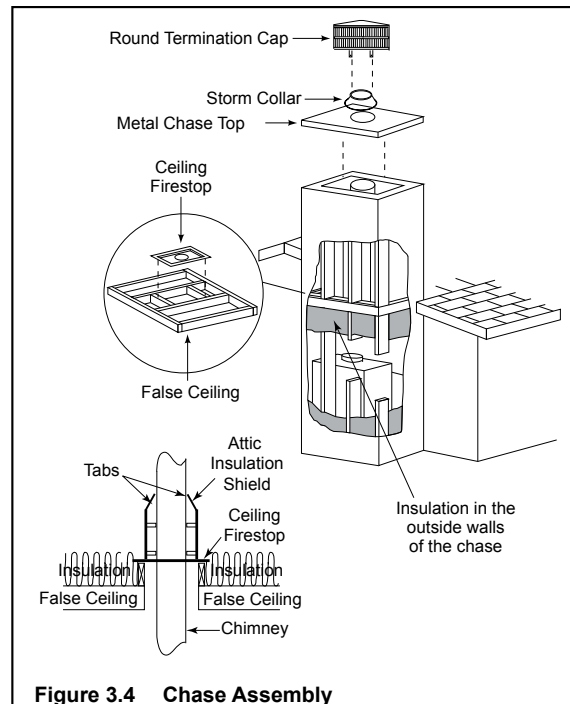

Figure 3.4 Chase Assembly
- In cold climates, the walls of the chase should be insulated to the level of the false ceiling as shown in Figure 3.4. This will help reduce heat loss from the home around the fireplace.